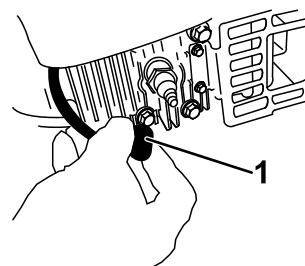

Figure 37
- Disconnect the spark-plug wire from the spark plug (Figure 37).